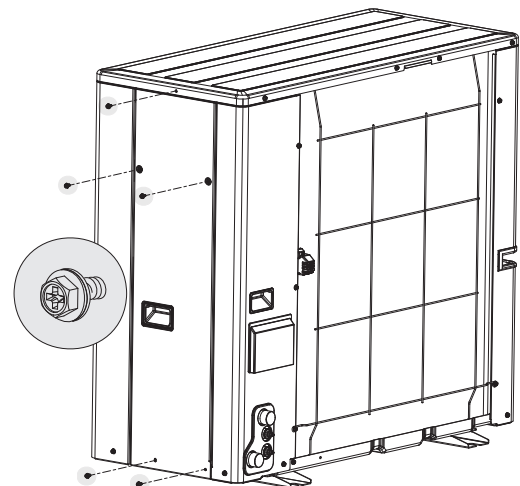

Figure 44. Heat Pump - Side Panel Removal
- Remove service panel, *Figure 44*, and inspect the following:
To access the refrigerant circuit pipework and the electrical components, the side panel can be taken off by removing the 5 screws shown in *Figure 44*.
4. Remove service access covers, refer to *Figure 44*.